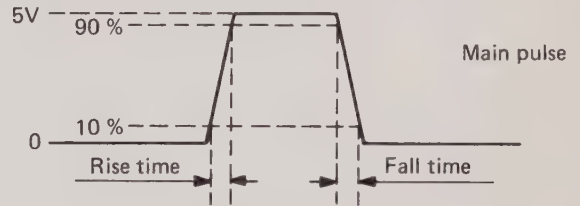

Fig. 9.7. Rise and falltime, main pulse
3. Check that rise and fall times are < 10 ns between the 10% and the 90% levels of 5 V. Refer to fig. 9.7.